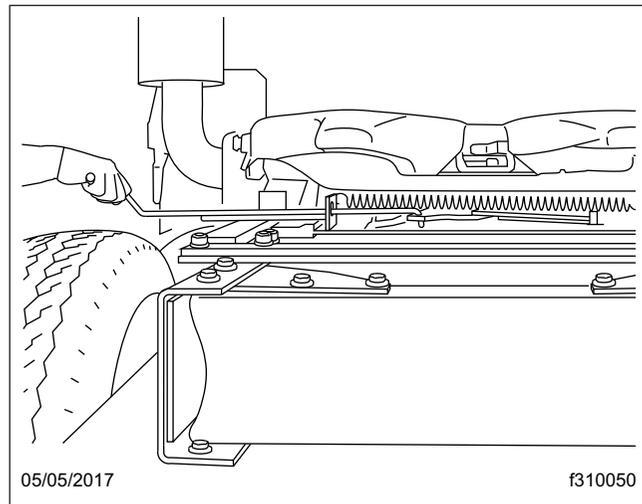

Fig. 20.12, Releasing the Sliding Fifth Wheel, (Fontaine)
- 2.1 **Fontaine:** Lift the slide release pull handle to disengage it from the guide plate. Then, pull out the handle until it is in the unlocked position and can be positioned against the guide plate to hold it out. The handle will stay in the unlocked position until it is manually disengaged from the guide plate. See Fig. 20.12.